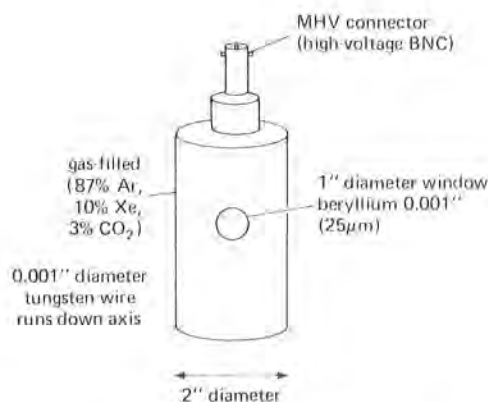

Figure 15.19. Proportional counter.
*Ionization chamber, proportional counter, Geiger counter.* These detectors consist simply of a cylindrical (usually) chamber, typically a few inches in size, with a thin wire running down the center. They are filled with some gas or mixture of gases. There’s a thin “window” on one side, made of some material that the desired x rays can penetrate (plastic, beryllium, etc.). The central wire is held at a positive potential and connected to some electronics. Figure 15.19 shows a typical configuration.